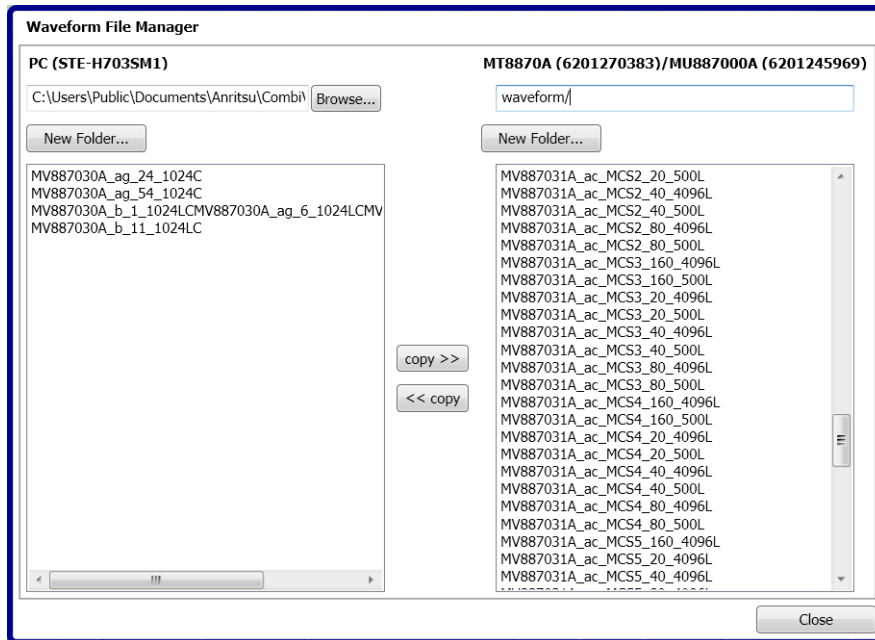

Figure 9-3. Waveform File Manager
1. From the CombiView menu select **VSG > Manage Waveform Files** to open the window shown in Figure 9-3.